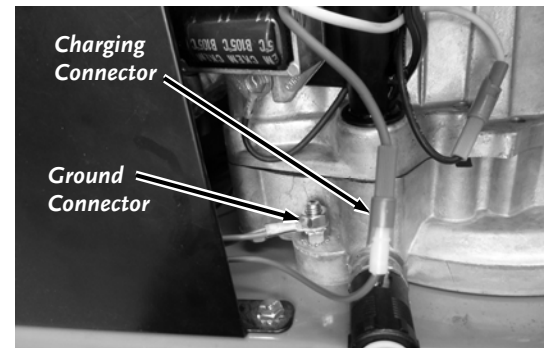

Figure 9
- Disconnect the Charging Connector from the Engine (**Figure 9**).
11. Install the Green Ground Wire to the Engine Mounting Bolt using a 1/2" Wrench (**Figure 9**).